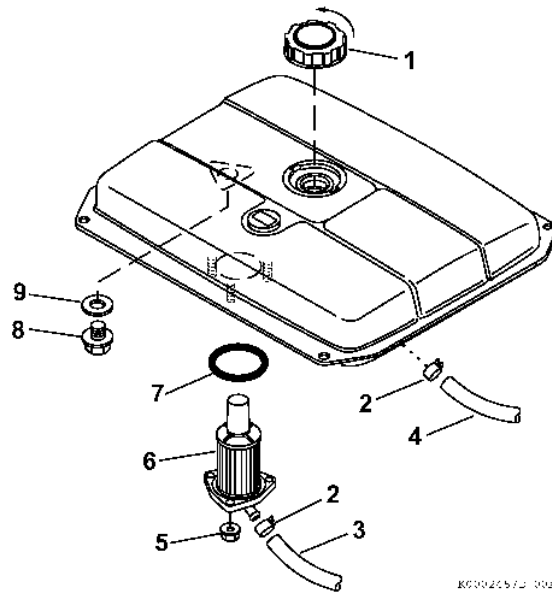

Figure 74
2. Remove the fuel cap (Figure 74, (1)).
3. Remove the fuel tank drain plug (Figure 74, (8)) and gasket (Figure 74, (9)) to drain the fuel. Inspect the gasket and replace if damaged.
4. Remove clamps (Figure 74, (2)) and disconnect fuel supply (Figure 74, (3)) and return lines (Figure 74, (4)).
6. Remove the three fuel filter nuts (Figure 74, (5)) and pull the fuel filter (Figure 74, (6)) out through bottom of the tank.
7. Install a new filter into the tank using a new O-ring (Figure 74, (7)).